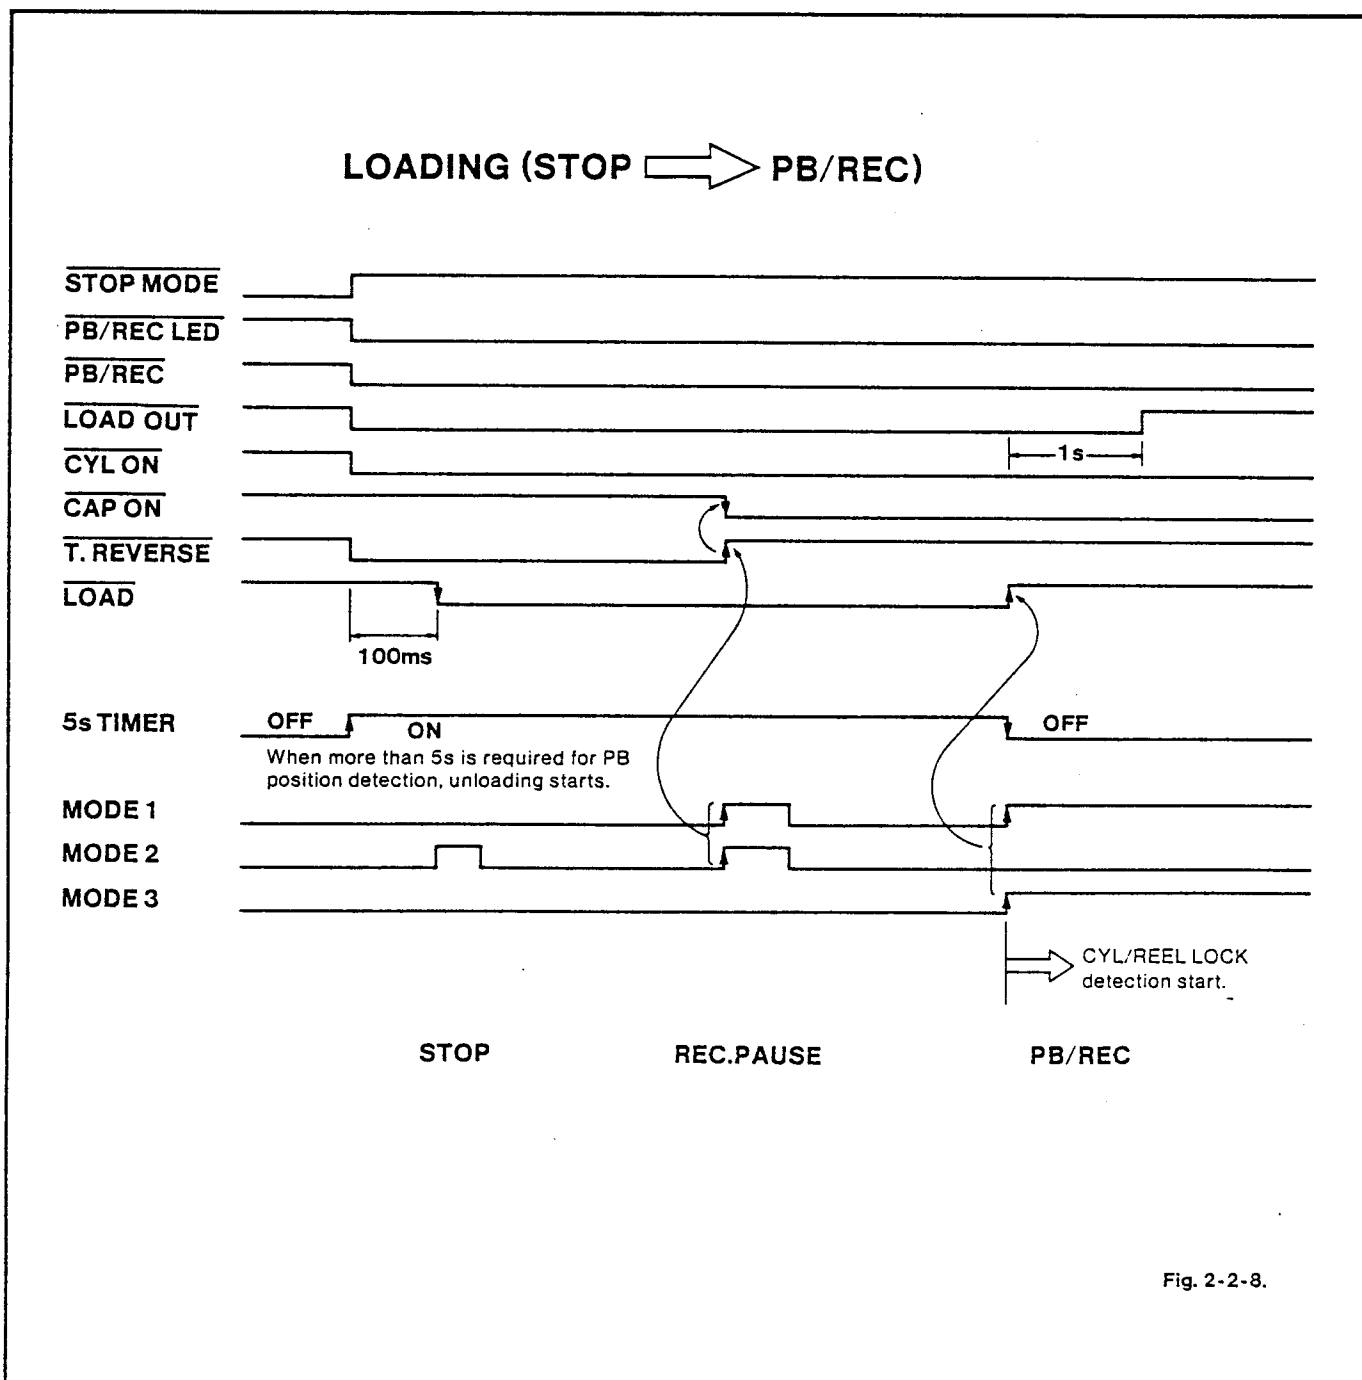

Fig. 2-2-8.
2) LOADING (STOP — PB/REC) (See Fig. 2-2-8)